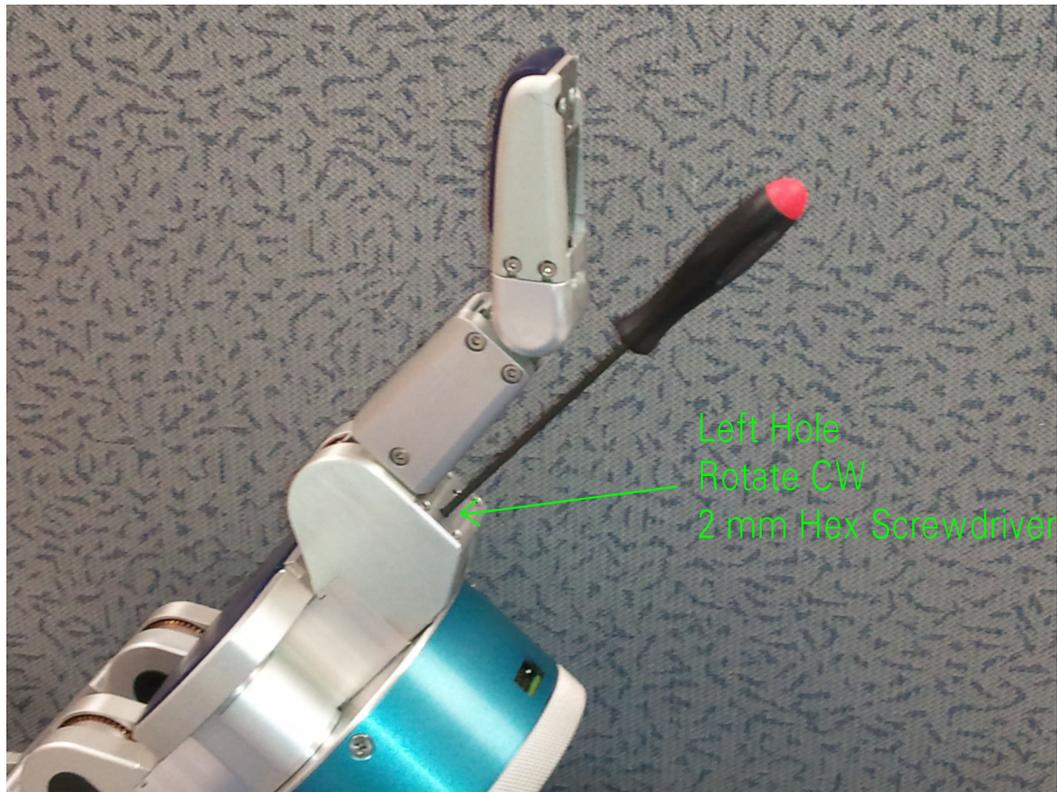
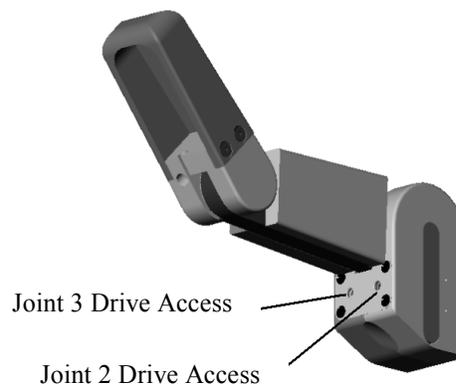

Figure 26 - Manual Torque Switch Activation
Figure 27 - Manual TorqueSwitch™ Activation Drive Holes
3. If the BarrettHand™ has been inactive for an extended period or if the finger has been slammed open against its stop with a high velocity setting, the TorqueSwitch™ may need to be manually activated. Insert a 2-mm hex wrench into the left Drive Access hole, as shown in Figure 27. Rotate counterclockwise to open the finger fully. Next, press very hard against the inner link to constrain it from moving while not constraining the outer link, as the person's thumb is doing in Figure 26, while torquing the hex wrench clockwise. Increase torque until the fingertip breaks free, so that it can be rotated easily while the inner link remains stationary. Remove the 2-mm hex wrench and reinitialize the finger.